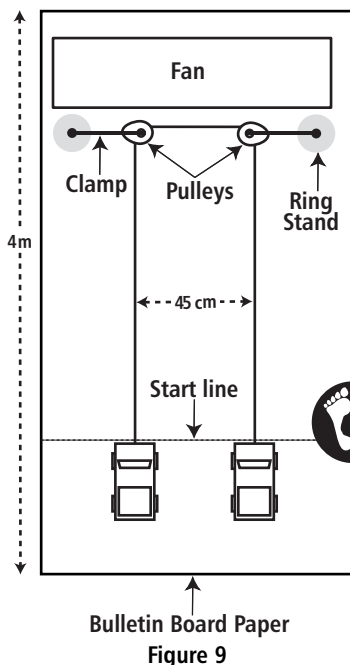

Figure 9
4. Place one ring stand on each side of the box fan next to the front of the fan, with pulleys pointing toward the middle of the fan. The distance apart will vary according to your fan and pulleys, but the suggested distance is about 45 cm (15 in.) (figure 9).
10. Align the vehicles so that the front end of each vehicle is the same distance from the fan. Mark this position as your start line by drawing a horizontal line on the bulletin board paper perpendicular to the outer edge (figure 9, p. 8).